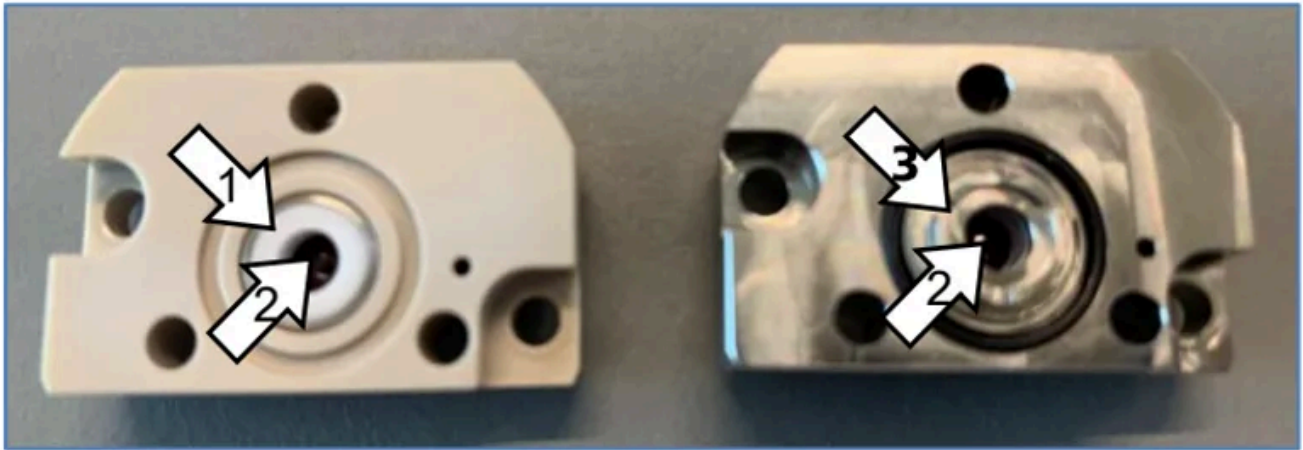

Fig. 17 Inner Housing/ Pressure Housing (left = old; right = new)
- **The old version (Fig. 17, left):**
The previous design was made of PEEK material, with the homogenizer (Fig. 17, pos. 1) and ruby ball (Fig. 17, pos. 2) pressed into position. Due to the tight tolerances, any slight misalignment in the H-stage mechanics could force the homogenizer out of position, causing it to jam during operation.
- **The new version (Fig. 17, right):**
The updated design is made of metal and still uses the same pressed-in homogenizer with the ruby ball (Fig. 17, pos. 2). A nut (Fig. 17, pos. 3) tightened to a specified torque, has been added to prevent the H-stage mechanics from displacing the homogenizer. This nut is factory-set and must not be adjusted.
Note: : Since the new Pressure Housing (Fig. 17, right) has an expected lifetime >2 years, the Pressure Housing has been removed from the PM Kit since January 2026.